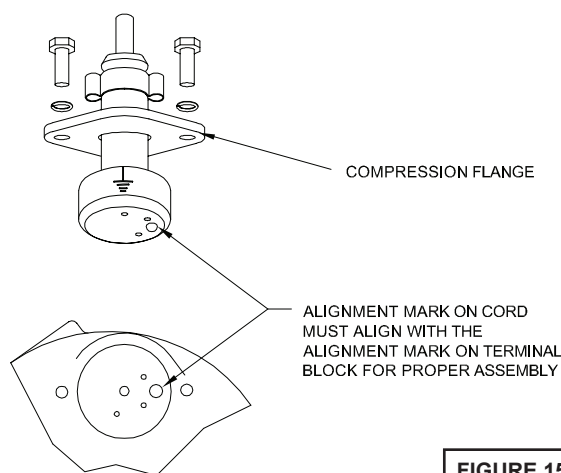

FIGURE 15
Power/Control Cable- Refill the cooling oil as outlined in paragraph F-1.3. Make wire connections as outlined in paragraph F-4.3. Insert female end of cable plug into housing bore aligning timing mark with hole in terminal block (21) see Figure 15. Compress cable plug with compression flange (16a) by tightening hex bolts (11) into the housing (6). Torque to 132 in-lbs.